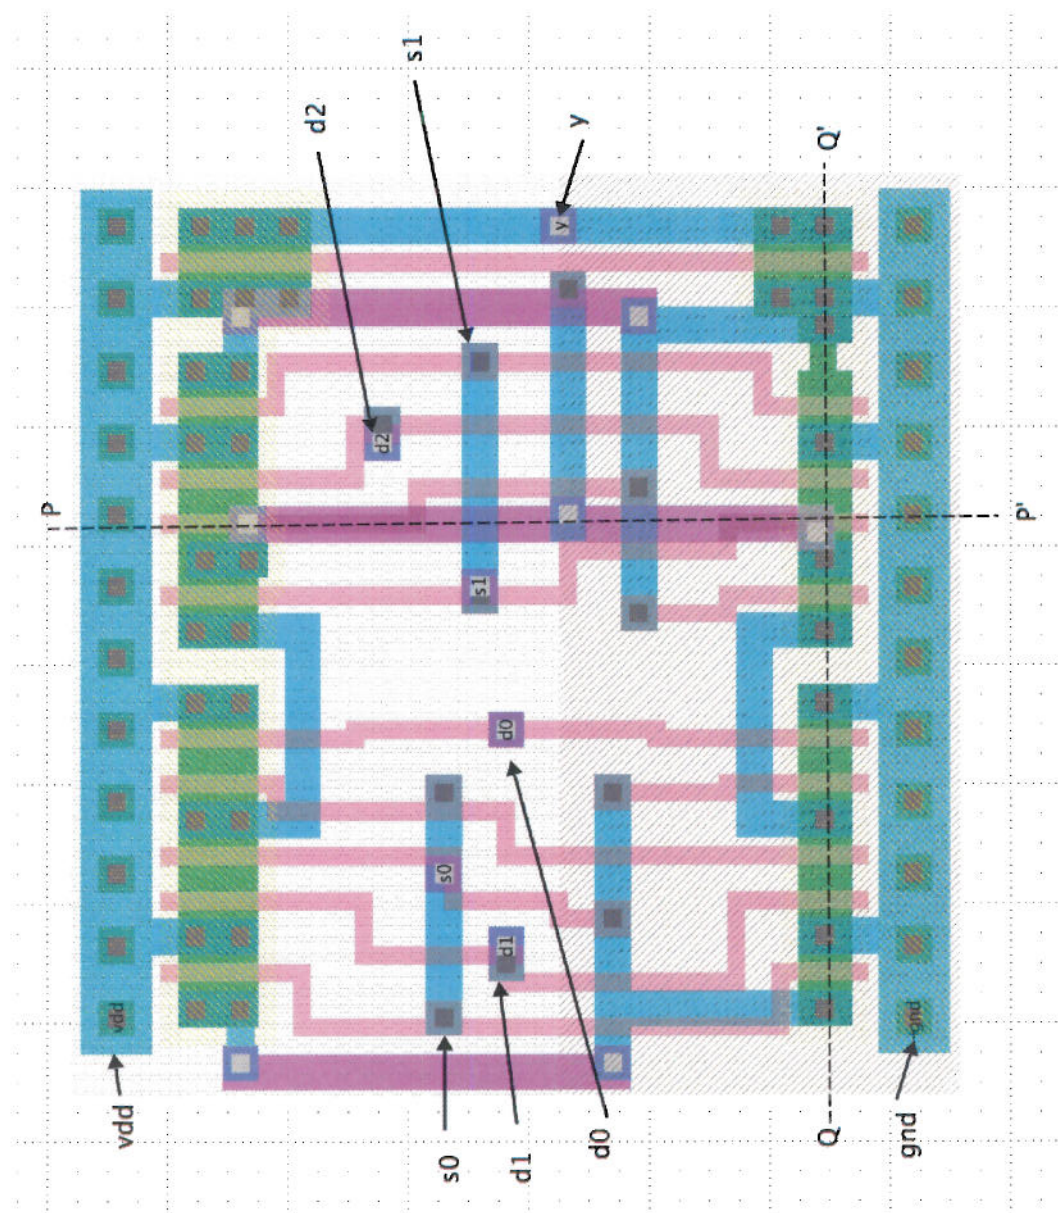

Figure 1.1 Layout of full-custom cell for Question 1
1. a) *Figure 1.1* (see the colour supplementary sheet) shows the layout of an n-well CMOS circuit with five input terminals: d0, d1, d2, s0 and s1 and one output y. Extract and draw the transistor-level schematic diagram of this circuit. Note that the supply signals are labelled as vdd and gnd.
- c) For the layout shown in *Figure 1.1*, draw the vertical cross section along the lines PP' and QQ'. Label your diagram indicating the n-well region and the different types and levels of doping (e.g. p-, n+ etc).